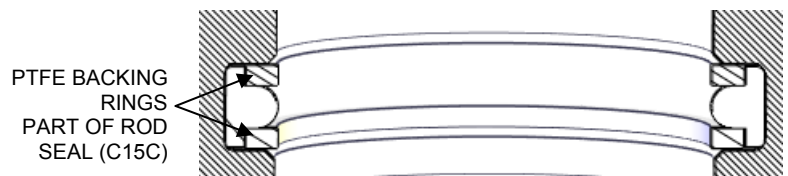

Figure 6— Cartridge Assembly
- then insert the PTFE backing rings as shown in Figure 6. The backing rings are cut with a bevel. Make sure the beveled ends of the rings ends meet but do not overlap.